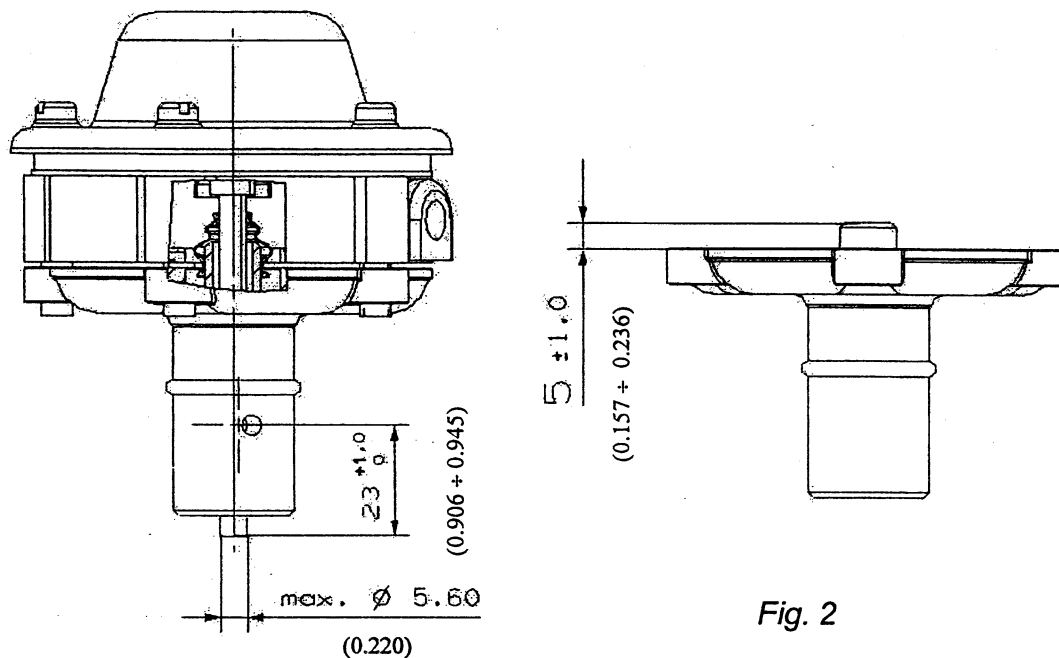

Fig. 2
2. Measure the distance between the lifter and the axis of the pump casing bolt hole (26.21.0157). This distance shall be 23^{+1} mm (0,905-0,945 in) /Fig. 2/. If this dimension is higher, the lifter shall be ground to obtain the dimension from 23 mm (0,905 in) to 24 mm (0.945).
4. Check the height of the seating element of the rubber bellow /see Fig. 2/. This element shall be 5 ± 1 (0.157 – 0.236 in). Correct it by milling or filing if necessary.
6. Measure the lifter thickness. It shall be 5.35 ± 0.05 mm (0.209 – 0.213) of dia. in the area of contacting with the bellow (26.11.0402) at "L" distance /see Fig. 3./ and max. of 5.60 mm (0.22) of dia. in remaining areas /Fig. 2/. Grind the lifter or replace with a new one if necessary.